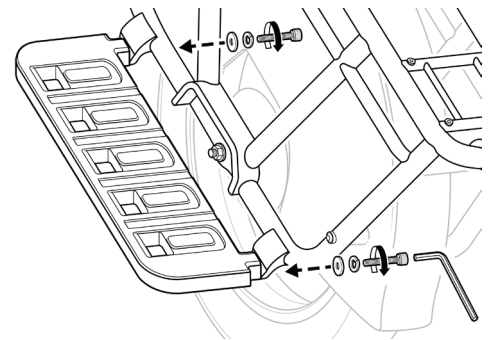

Figure 2 Secure bolts to frame mounting points.
4. **Secure the mounting bolts.** Press the running board against the mounting point and use a 6 mm Allen wrench to tighten each bolt evenly, alternating between bolts until secure. Refer to Figure 2.